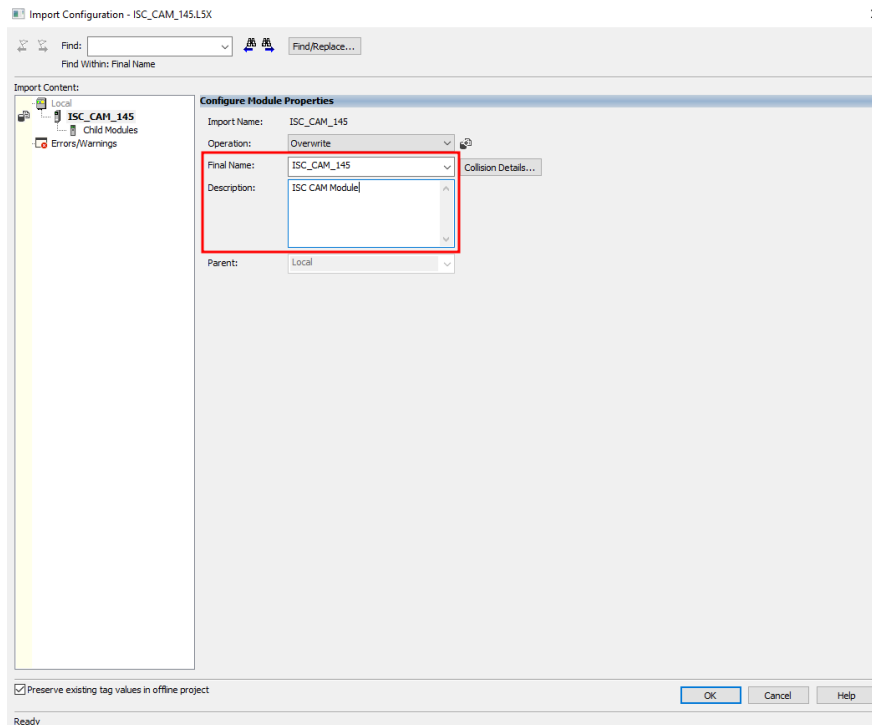

Figure 29: Import Configuration – ISC_CAM_145
12. An “Import Configuration – GED_ISC_CAM_v2.L5K” window will open. Update the name and description for the project if you would like it to be something other than the default, then click “OK”, Figure 29.